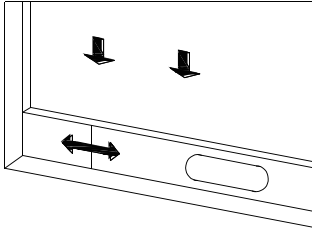
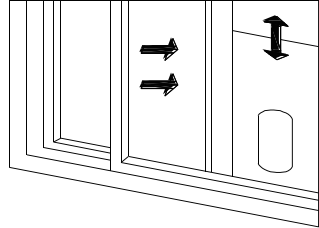

Figure 2
Figure 3
- 1) Half open the window, and mount the window sealing plate assembly to the window (as shown in Fig.2 and Fig.3).Components can be placed in horizontal and vertical direction.